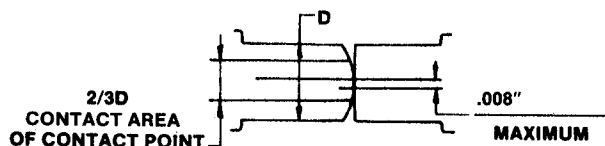

FIGURE 6.2
- (1) Check position and offset of both points. See Figure 6.2.